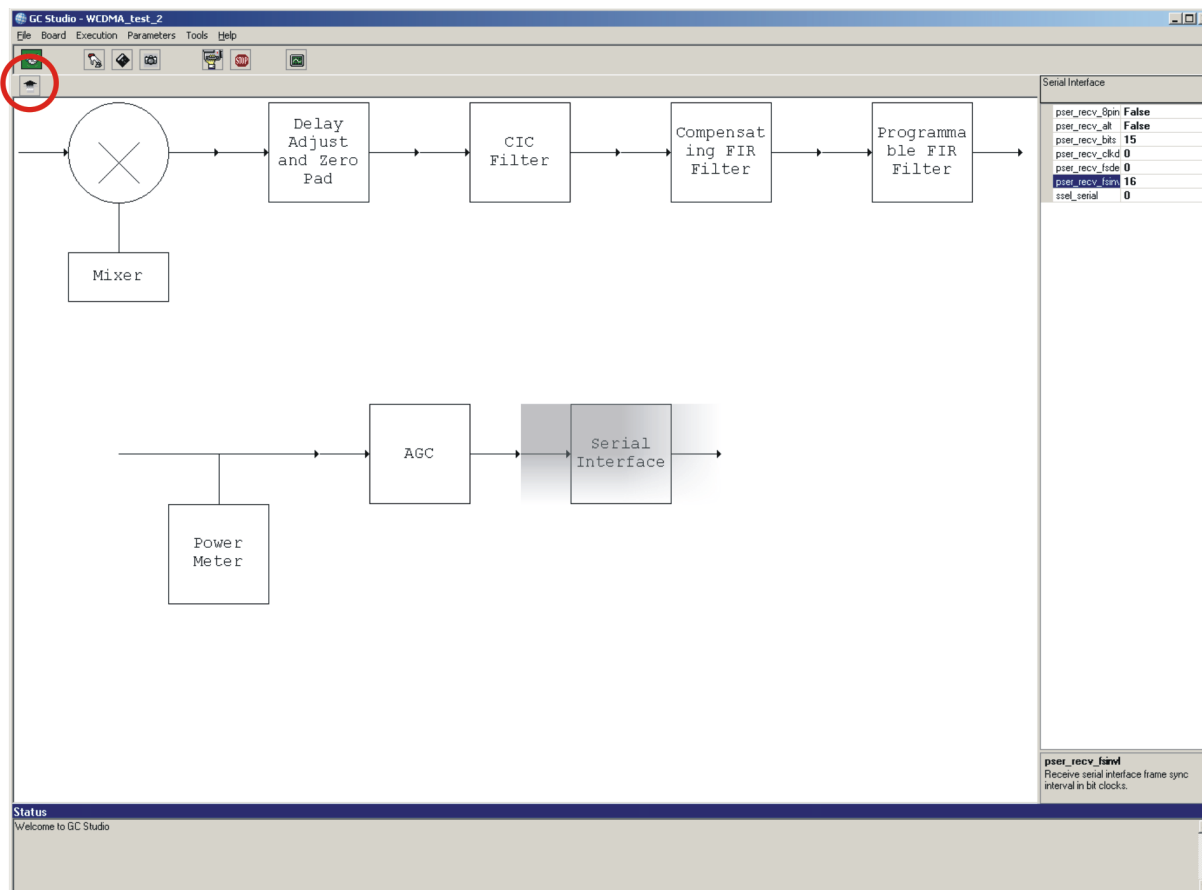

**Figure 58. WCDMA – ACG Block**
22. Click on the "AGC" block and set the registers as shown in Figure 58.